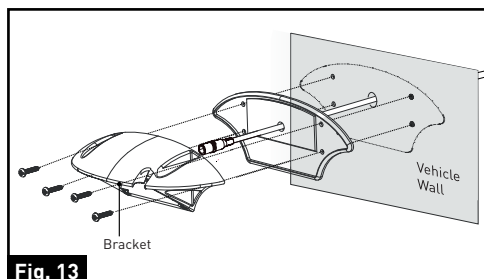

Fig. 13
4. Fix the gasket and bracket to the vehicle using four 3/4" flat self-tapping screws. Make sure the camera power cable is not wrapped or extruded. (Fig. 13)